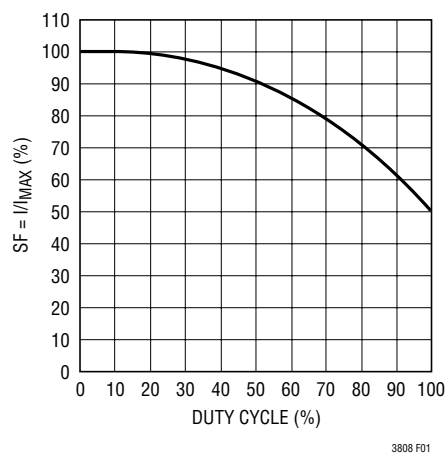

Figure 1. Maximum Peak Current vs Duty Cycle
However, once the controller's duty cycle exceeds 20%, slope compensation begins and effectively reduces the peak sense voltage by a scale factor (SF) given by the curve in Figure 1.
where SF is a scale factor whose value is obtained from the curve in Figure 1.
Setting ripple current as 40% of $I_{OUT(MAX)}$ and using Figure 1 to choose SF, the value of R_{SENSE} is: